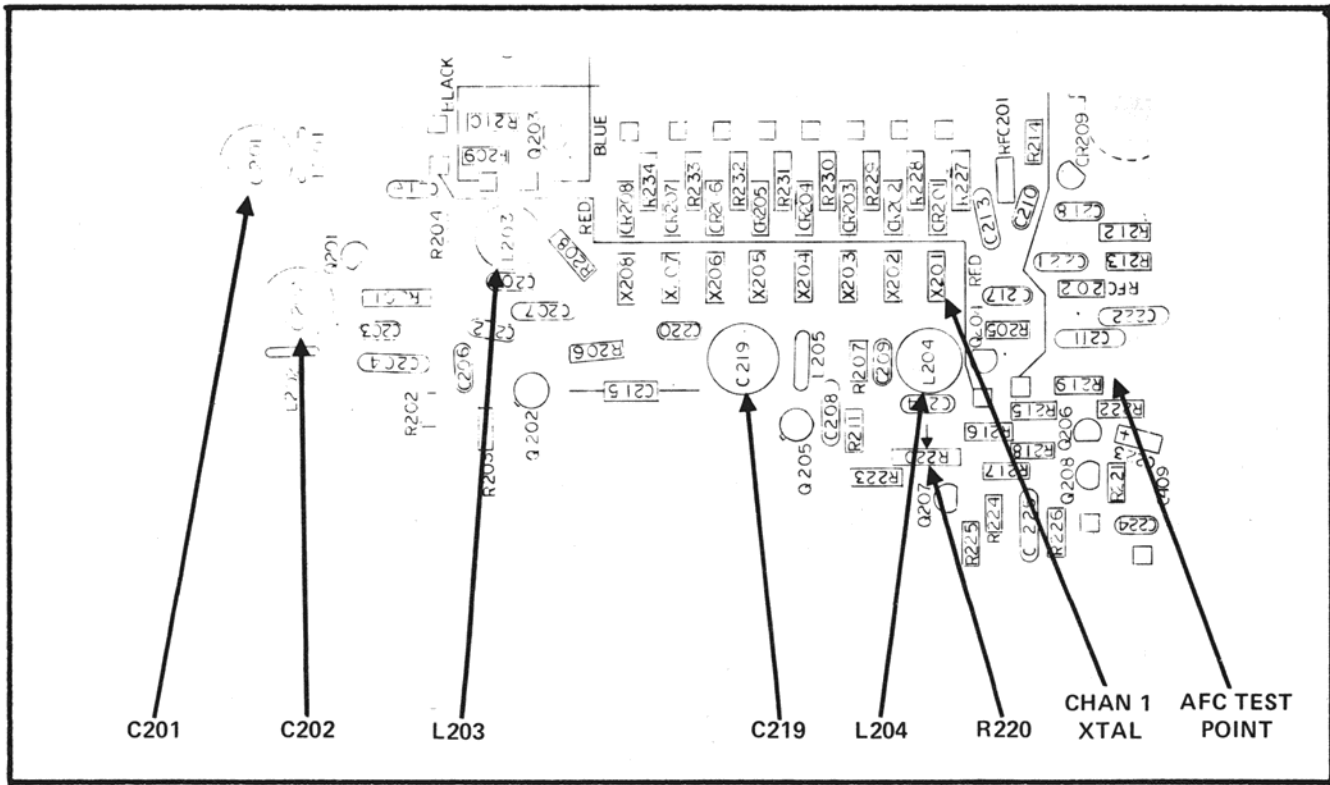
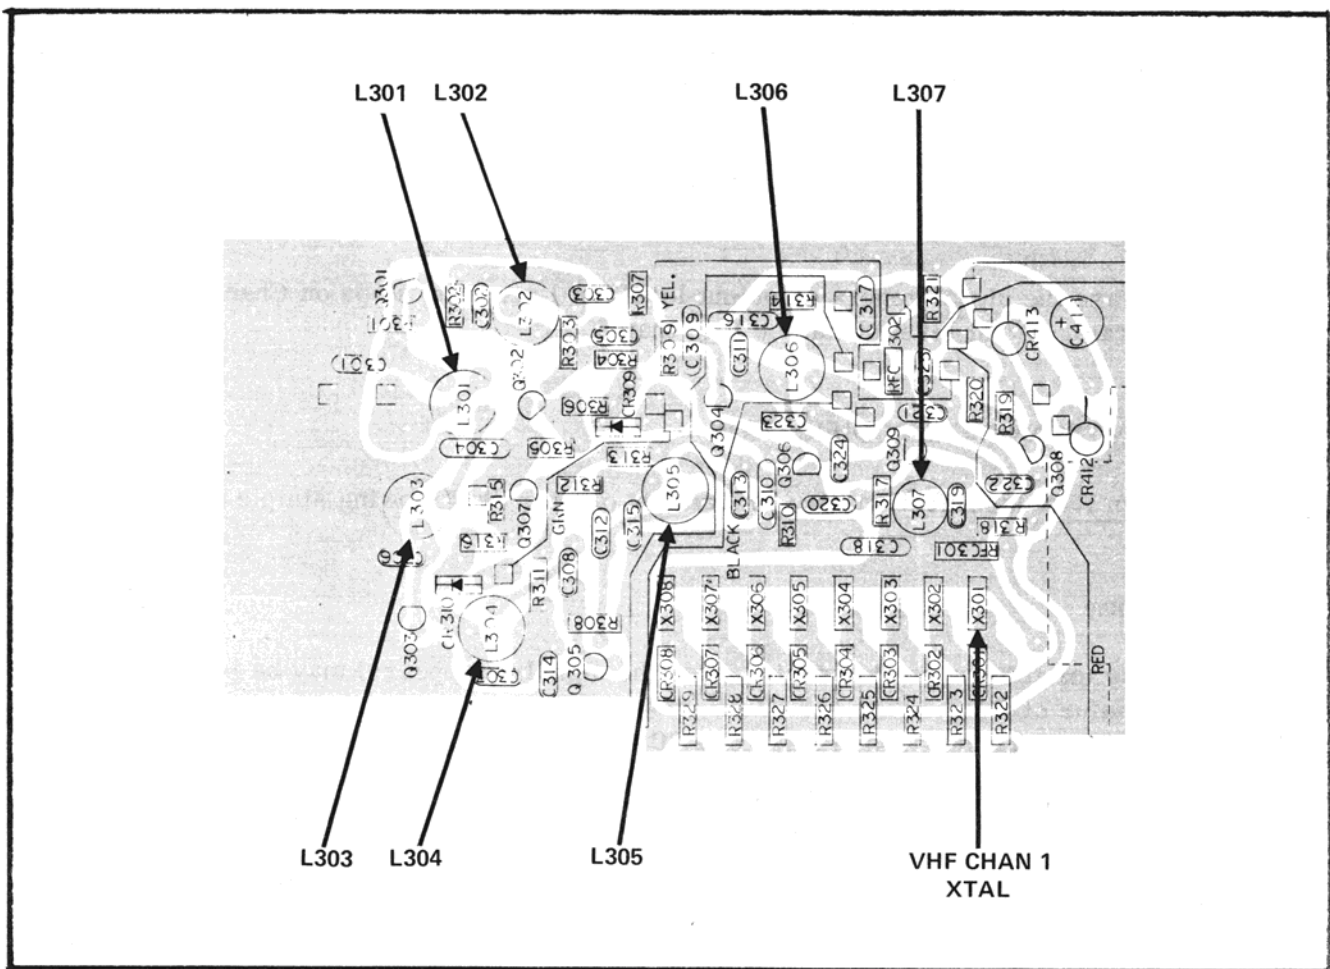

Figure 5-2. Main Board Tuning and Connecting Points for UHF Alignment
Figure 5-3. Main Board Tuning and Connecting Points for High and Low VHF Band Alignment
7. Adjust L203 (Figure 5-2) and L306 (Figure 5-3) for maximum indication on AC VTVM.
1. Install desired channel crystal in Channel 1 position (see Figure 5-2) and set Channel 1 band switch (on rear panel) to UHF position.
6. Set signal generator output level to approximately 1000 μ V and tune for maximum indication on RF voltmeter. Adjustment of L204 and C219 (Figure 5-2) may be necessary to obtain an indication on the RF voltmeter. Reduce the signal generator output level as required to maintain an RF voltmeter reading of approximately 0.3 volts.
7. Tune C201, C202, L204, and C219 (Figure 5-2) for maximum indication on RF voltmeter. Reduce signal level to maintain approximately 0.3 volts on RF voltmeter.
9. Connect VTVM to AFC test point (junction of R214 and R219, as shown in Figure 5-2) and ground. Set AFC control for a reading of 2.0 to 4.0 volts.
1. Install desired channel crystal in Channel 1 position (Figure 5-3) and set Channel 1 band switch (on rear panel) to HIGH position.
6. Tune L307, L305, L304, and L303 (Figure 5-3) for maximum indication on RF voltmeter. Reduce signal generator level as required to maintain approximately 0.3 volts on RF voltmeter during tuning.
1. Install desired channel crystal in Channel 1 position (Figure 5-3) and set Channel 1 band switch (on rear panel) to LOW position.
6. Tune L301 and L302 (Figure 5-3) for maximum indication on RF voltmeter. Reduce signal generator output level as required to maintain approximately 0.3 volts on RF voltmeter during tuning.